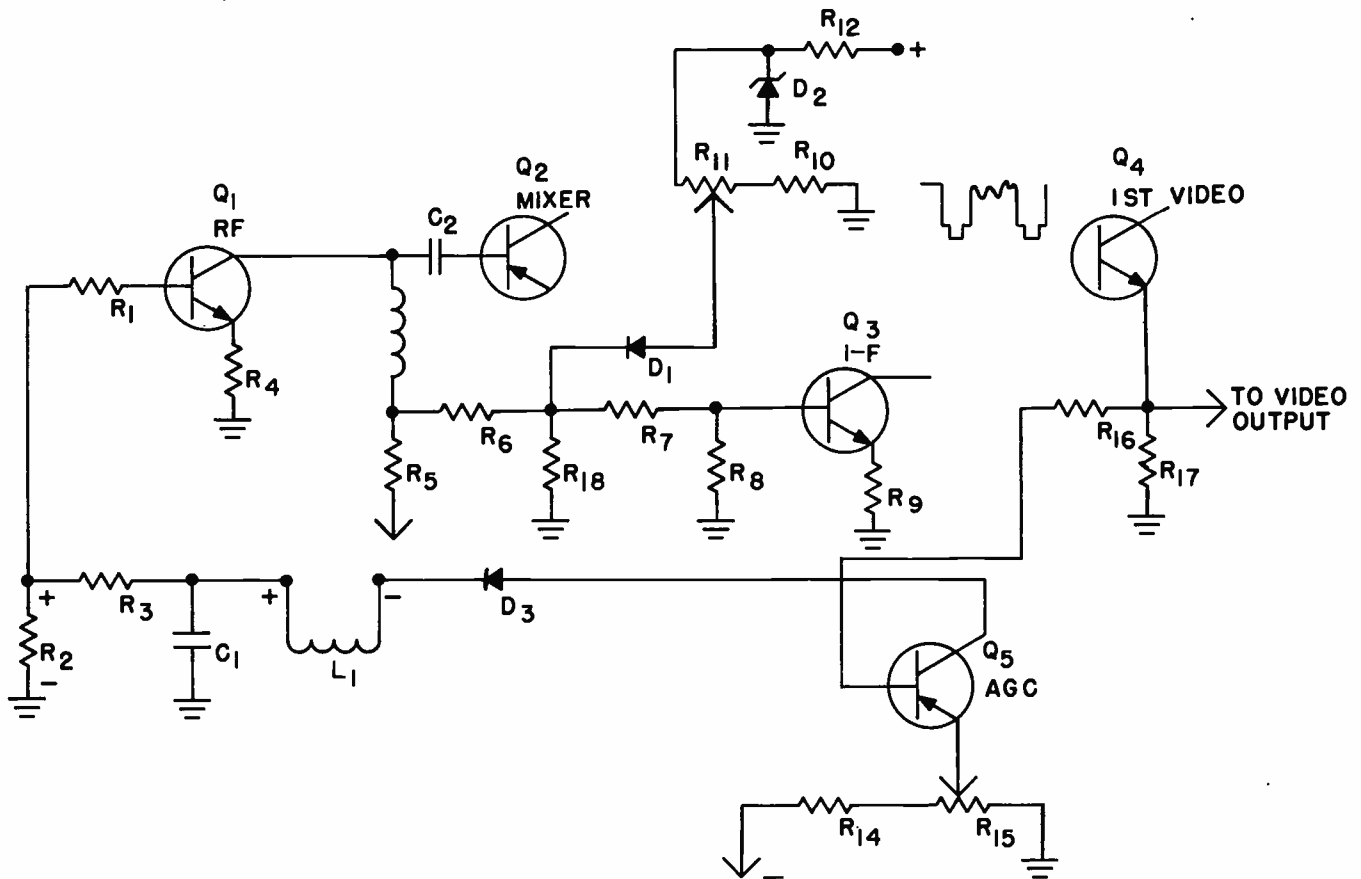

Fig. 13. An rf - i-f controlled agc system.
Another interesting agc circuit is shown in Fig. 13. This circuit is also a keyed agc circuit in which the agc voltage is fed only to the rf amplifier, but the change in collector voltage in the rf stage is fed to the base of the first i-f amplifier in order to control the gain of that stage also.
In the circuit shown in Fig. 13, the agc voltage is actually amplified by Q_1 . As a result, on comparatively
- (p) In the circuit shown in Fig. 13, if the amplitude of the video signal drops, what happens to the forward bias on (a) the i-f transistor, (b) the rf transistor?